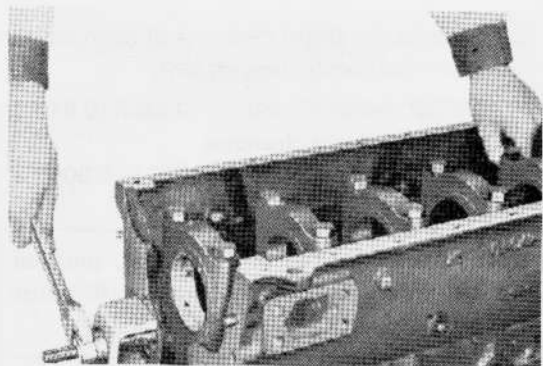

Fig. 2-80 Removing Camshaft Bearing
4. To remove the bearings, follow the methods as illustrated in Fig. 2-80.